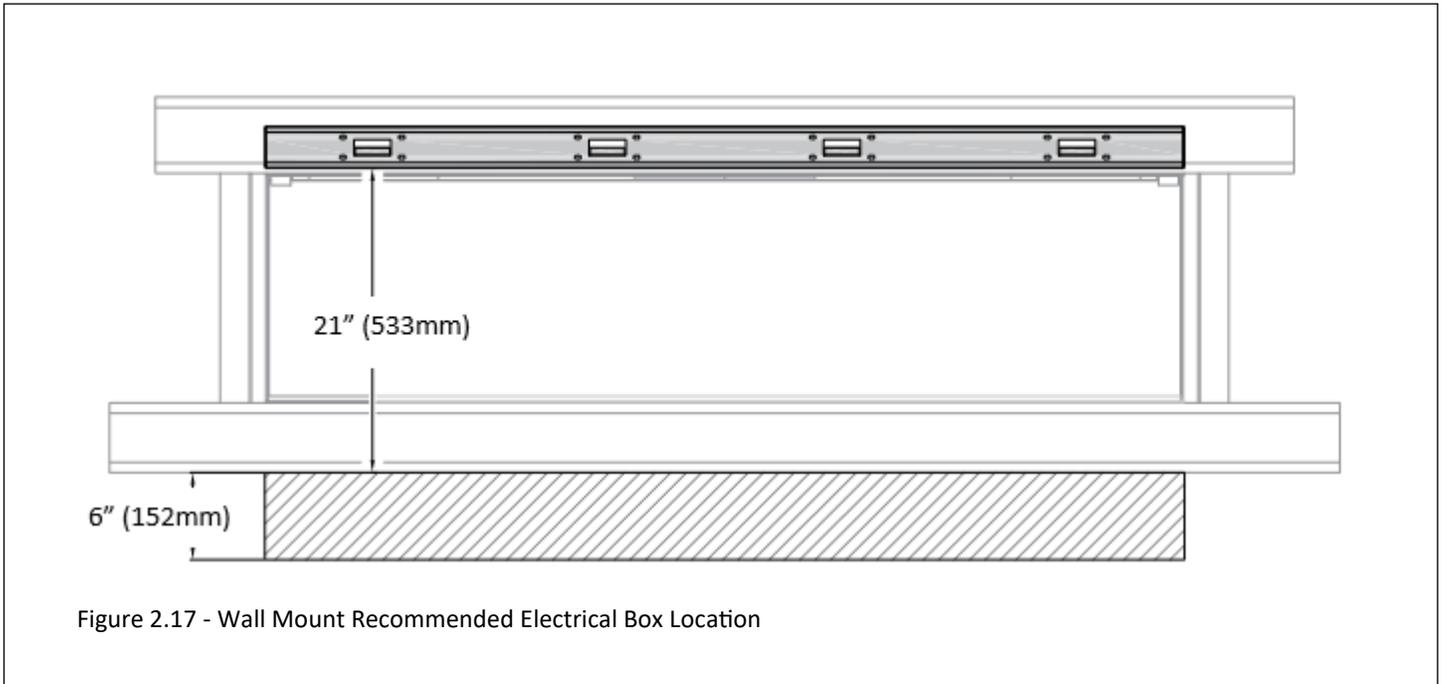

Figure 2.17 - Wall Mount Recommended Electrical Box Location
- Figure 2.17 shows the recommended electrical box location when installing the fireplace in a wall mount application with the optional Floating Mantel Kit. Ensure the faceplate of the electrical box is within the shaded area.